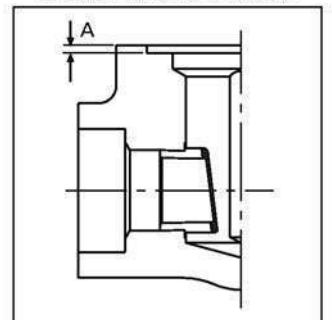

Figure 5.2A Gasket recess
The spiral wound gasket (19) may be fully compressed (zero gap between interfaces of the joint) at 110% of the torque given in Table 5.2. The following criteria should be used (see Figure 5.2A).
Gasket recess: 0.085 - 0.090" (2.15 - 2.3 mm) (see dimension "A" in Figure 5.2A).